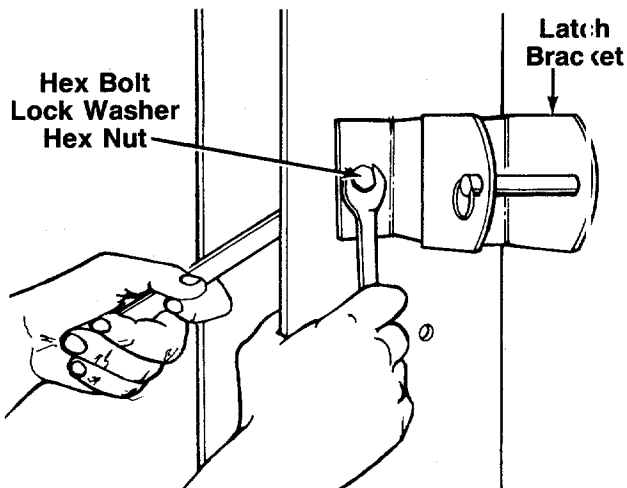

FIGURE 6.
2. With the beam still in the upright position, place the pivot latch on the beam as shown in figure 6. Secure with hex bolts, lock washers and hex nuts just removed. Tighten securely.